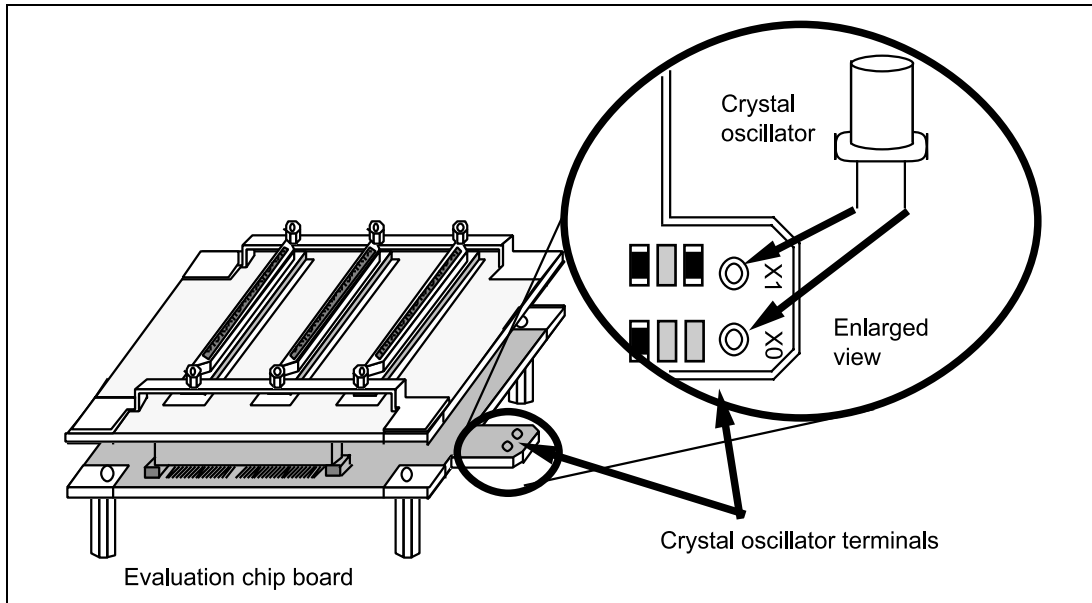

Figure 3.6 Installing the Crystal Oscillator
When an external probe is connected to the emulator probe connector on the emulator station's rear panel, it enables external signal tracing and multibreak detection. Figure 3.6 shows the external probe connector.
2. Attach the crystal oscillator into the terminals on the evaluation chip board (figure 3.6).